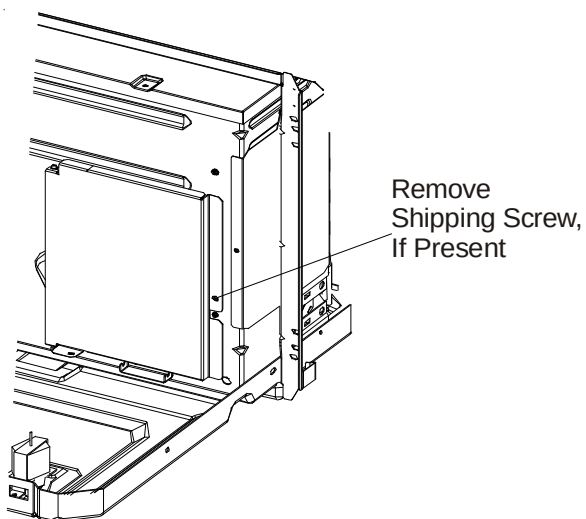

Figure 7
2. Remove shipping screw from the vent door, if present. See Figure 7.
NOTE: The vent door shipping hardware must be removed before using the vent control lever. See Figure 7.